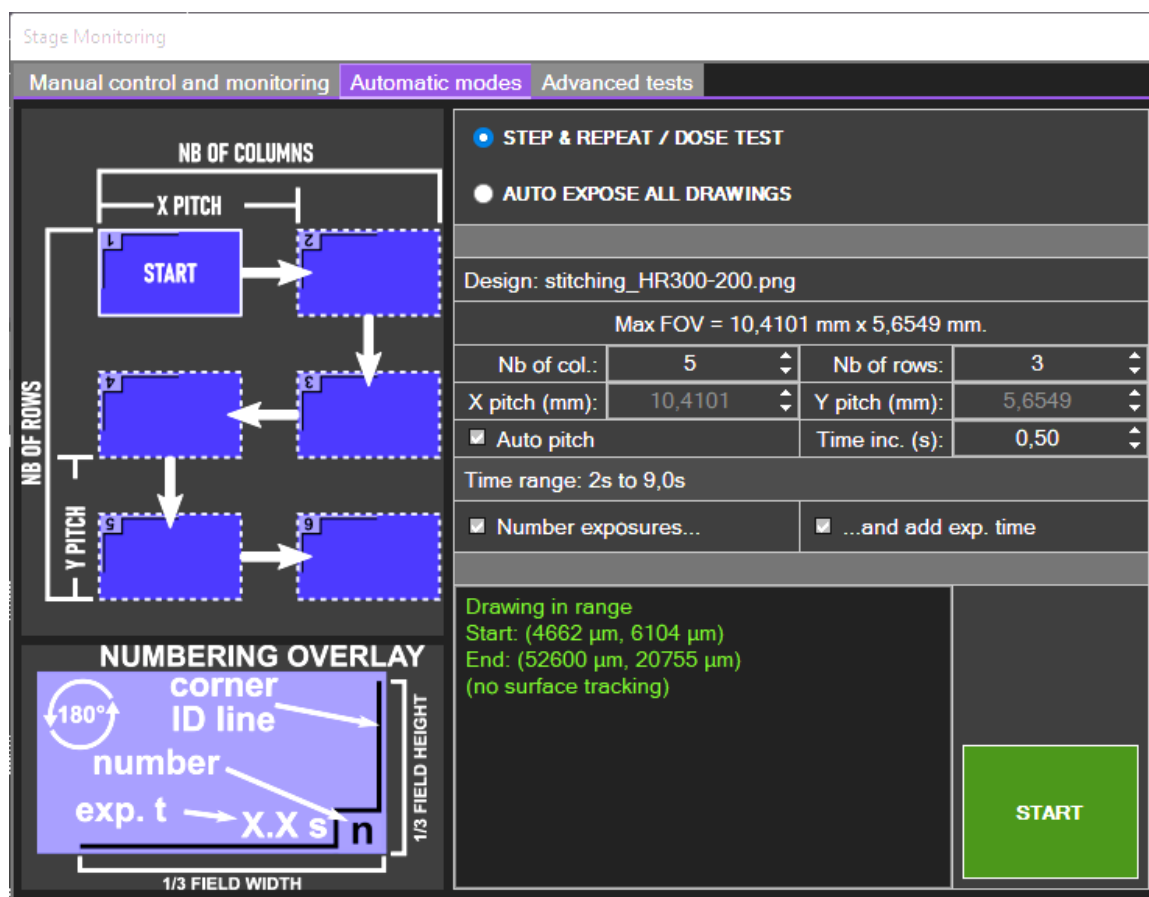

Figure 39 – Automatic mode tab in XY stage window
- Go to the **Expose** menu and click on **Dose test**. A new window opens as shown in Figure 39. The “**STEP & REPEAT / DOSE TEST**” mode should be selected. The “**Design**” and “**Max FOV**” fields respectively indicate which design will be exposed and its dimensions.
- **Time increment** (in s). If it is set to 0, all elements of the drawing will be exposed using the Initial time. To perform a dose test, enter a positive value. Each n-th element (from 1 to $N = \text{"Nb of columns"} \times \text{"Nb of rows"}$) will be exposed with the time $t_n = t_0 + (n - 1)\Delta t$ where t_0 and Δt are respectively the initial time and the time increment. The initial time corresponds to the exposure time of the first element of the array (Start position in the schematic Figure 39). By default, the software will use the time indicated in the design list in the **PARAMETER** panel. To change the initial time, simply modify the value in the design list.